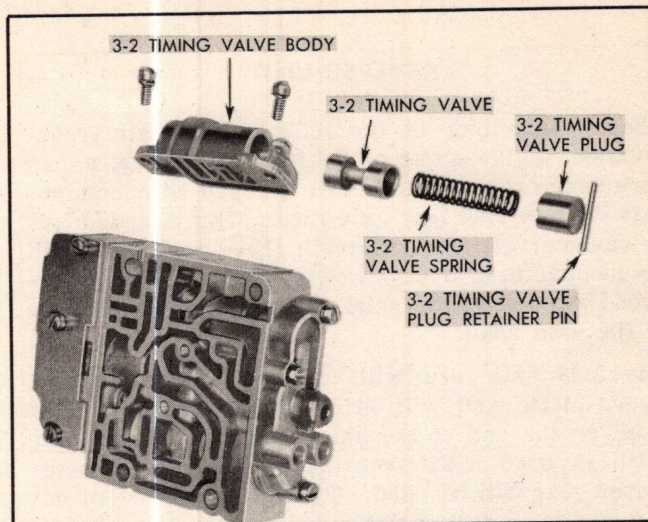

Fig. 12 Disassembly of Timing Valve Body Assembly
5. Remove two (2) screws and remove 3-2 timing valve body assembly. Remove timing valve plug retainer pin, timing plug, spring and valve (Fig. 12).